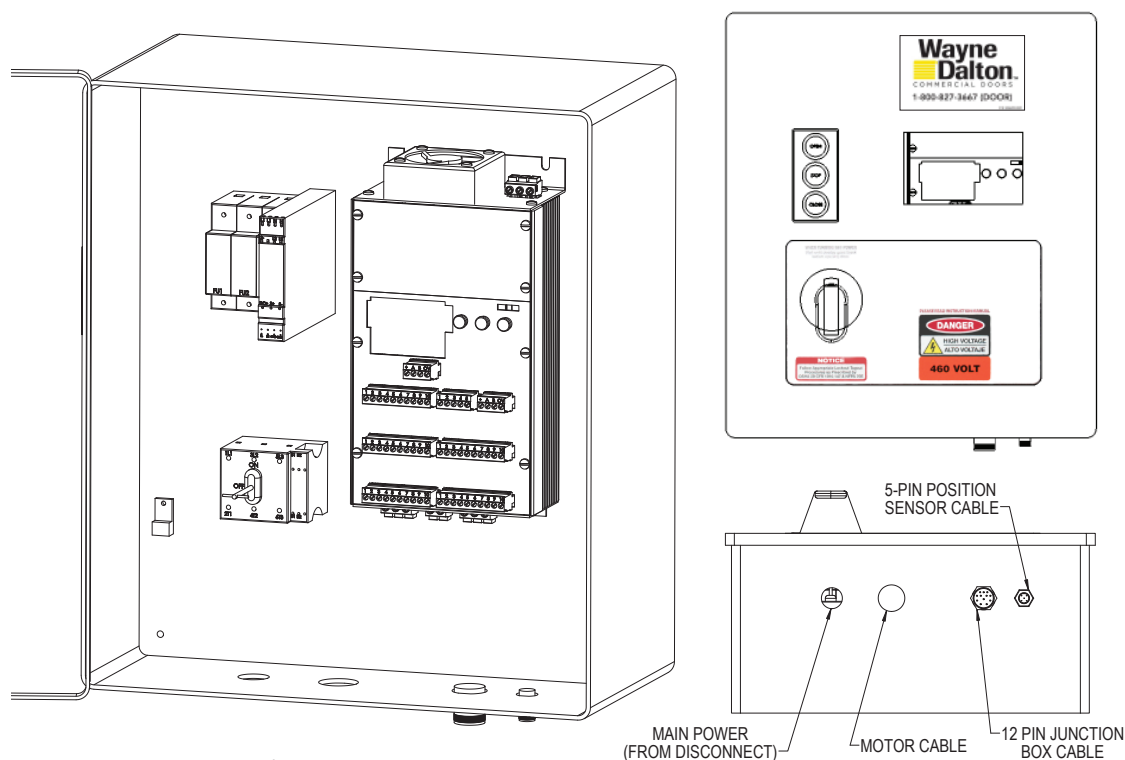

Fig 4-U
15. INSTALL SAFETY LABELS, Fig. 4-V